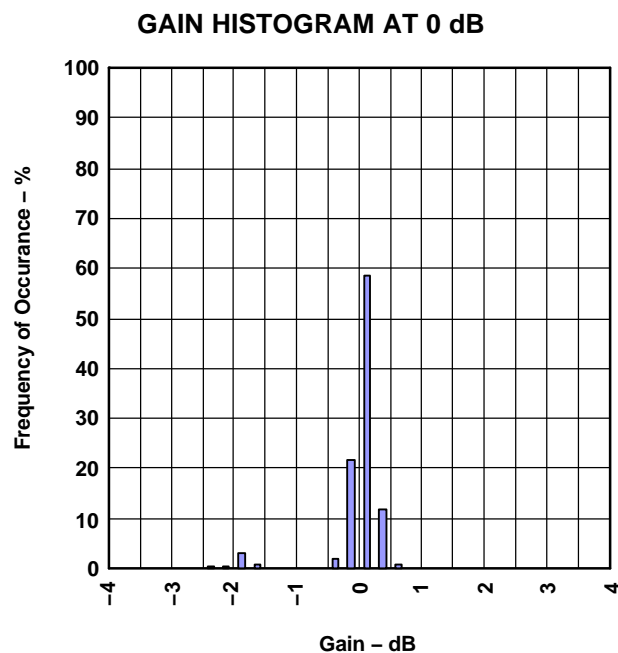

Figure 29. Typical Gain Variance
- (1) Each step is tested at its midpoint and characterized within ± 4 dB of the specified gain value for $V_{DD} = 5$ V. For $V_{DD} = 4.5$ V to 5.5 V, multiply values by 90% and 110%, respectively.
- (2) 95% of the characterized values lie within ± 0.5 dB of the specified gain value. Figure 29 shows the typical behavior of most devices.